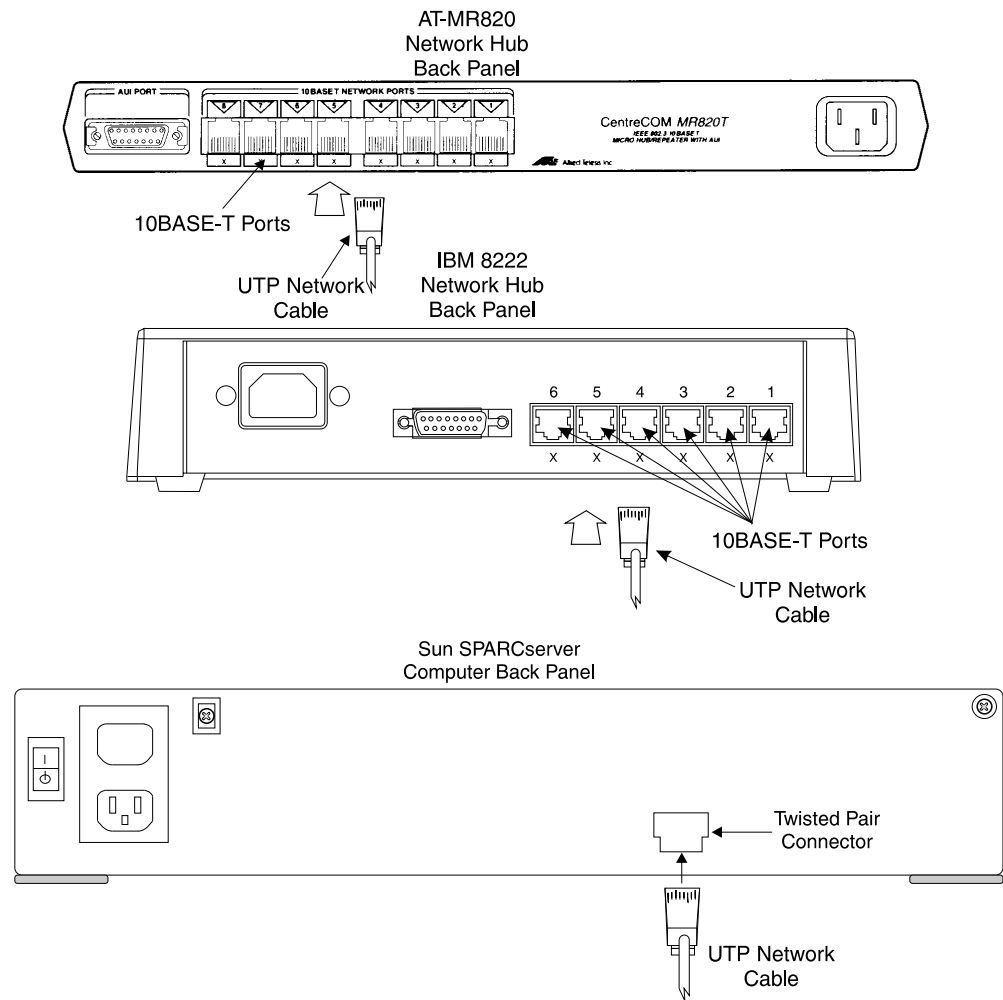

Figure 3-18: Network Hub Units — Back Panel
To connect the network hub unit to the *Sun SPARCserver* computer, do the following (see Figure 3-18):
4. Plug the other end of the UTP cable into Port 1 of the 10Base-T ports on the network hub unit (see Figure 3-18).